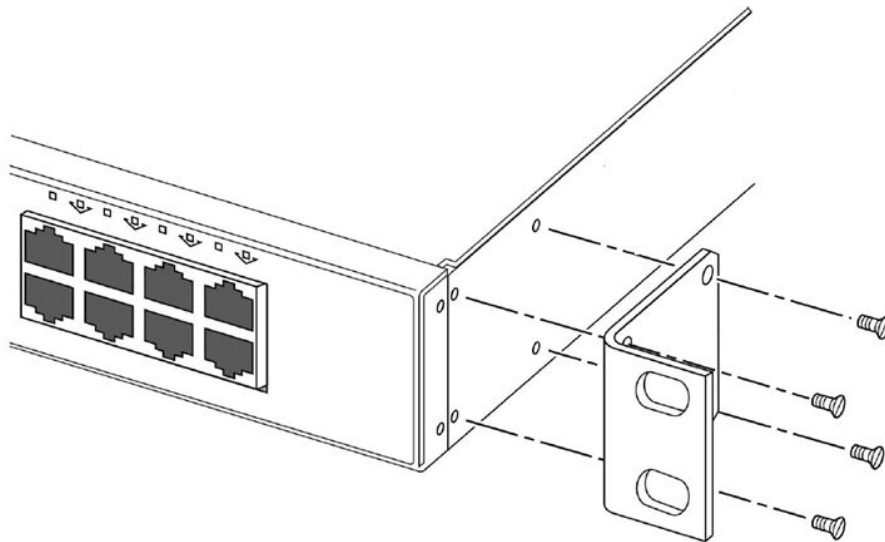

Figure 170: Front Mount: Attaching a Short Mounting Bracket
- Figure 170 shows a front-mount configuration using a short mounting bracket.